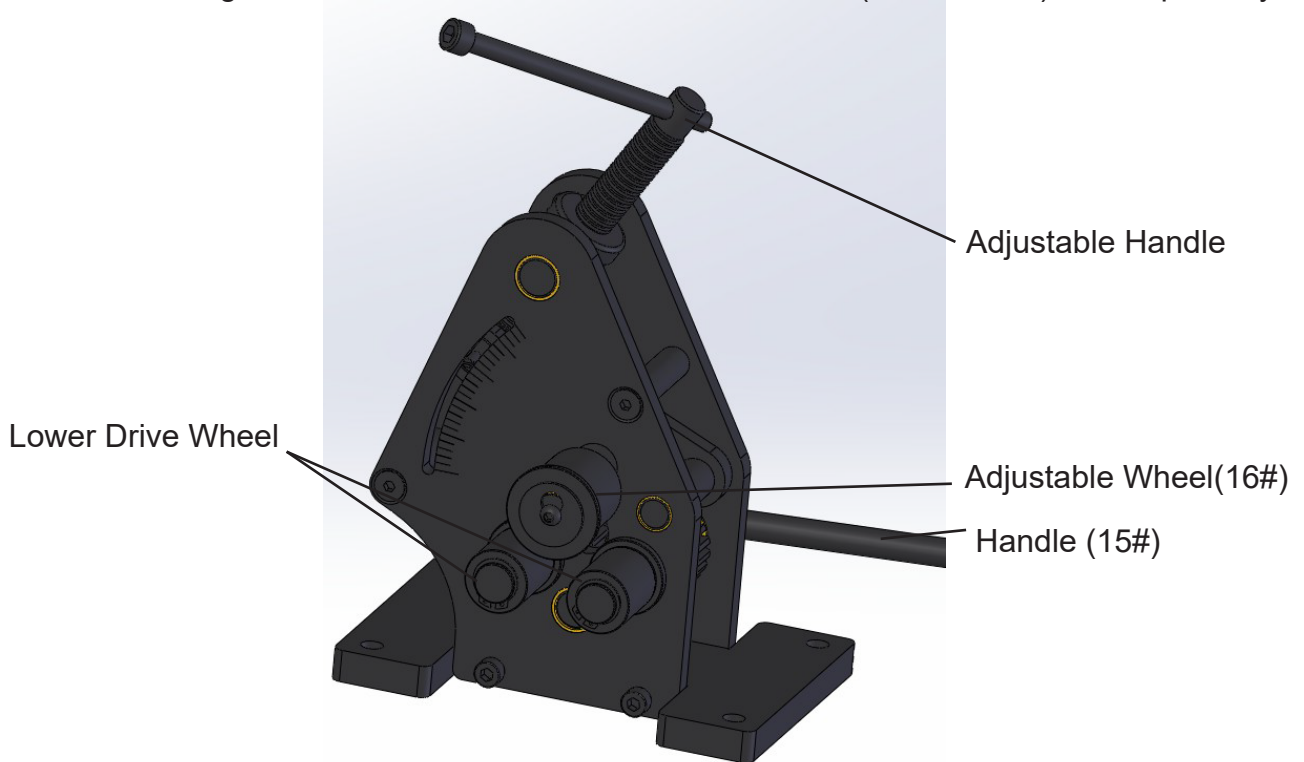

Figure 2
2. Move the Adjustable Wheel (16#) up or down (as desired) by turning the Adjustable Handle. see **Figure 2**.